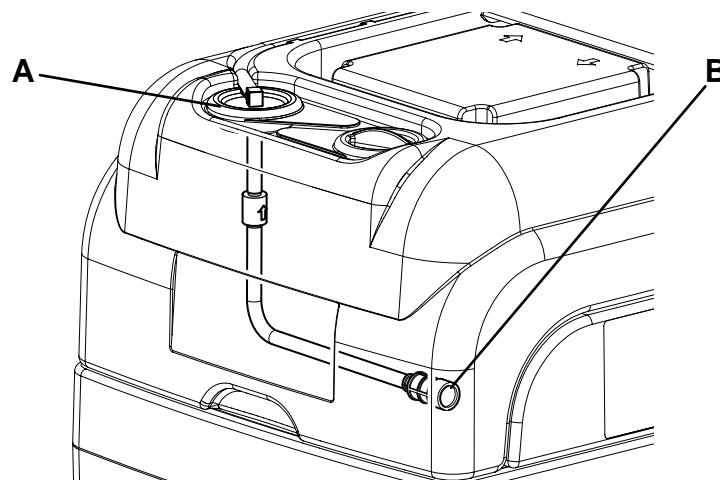

Figure 5
1. Empty the solution tank (14) as shown in Use chapter.
3. Make sure that the power supply cable (10) is disconnected from the electrical mains.
4. Remove the solution hose plug (A, Fig. 5), carefully remove the hose from the tank and clean the filter (B) with water.